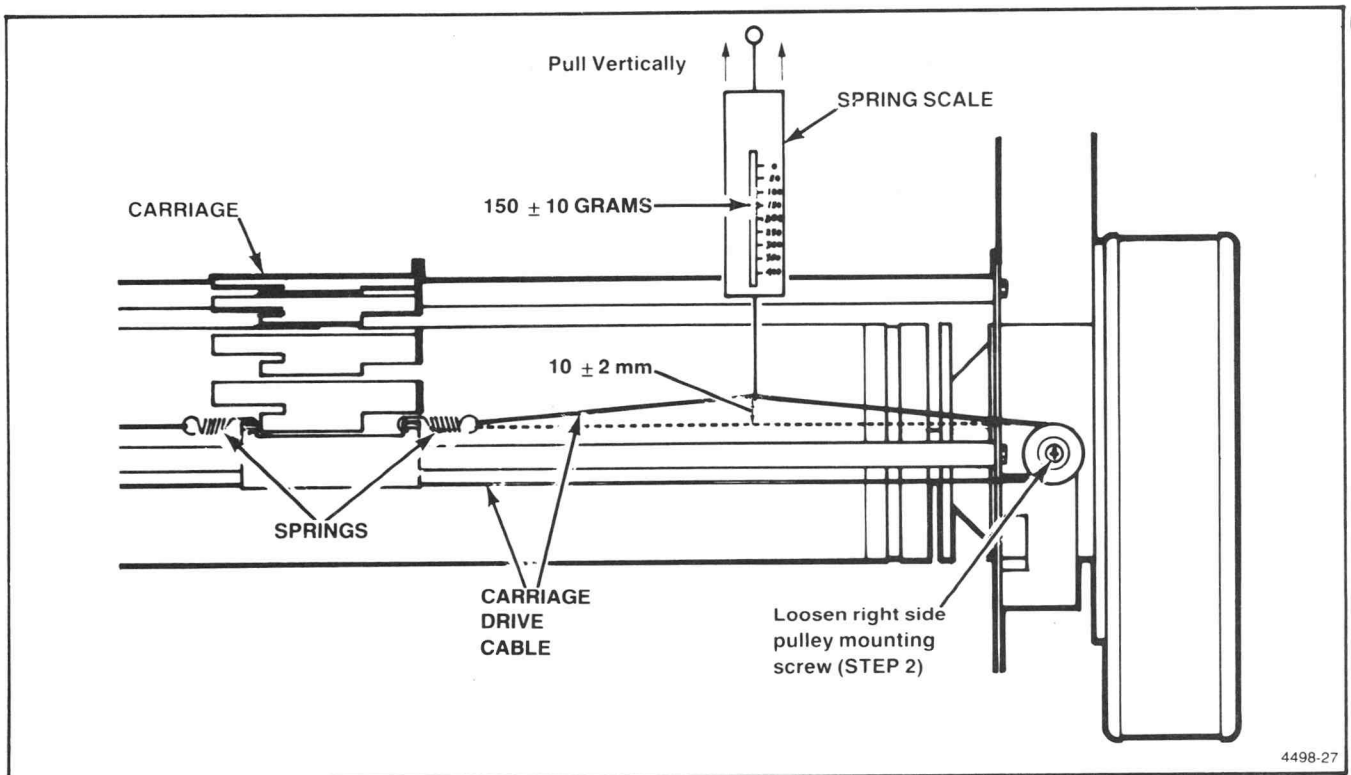

Figure 5-9. Carriage Drive Cable Tension Adjustment.
2. Loosen the right side pulley mounting screw (see Figure 5-9).
3. Push the right side pulley to the right until visible gaps (spaces) appear between adjacent coils on the two springs connecting the carriage drive cable to the ink jet head carriage (see Figure 5-9).
7. Hook the spring scale over the upper carriage drive cable approximately midway between the carriage and the right side pulley. Pull the spring scale vertically up 10 mm. The tension should read 150 grams. The acceptable cable tension range is 150 plus or minus 10 grams with 10 plus or minus 2 mm cable deflection (see Figure 5-9).